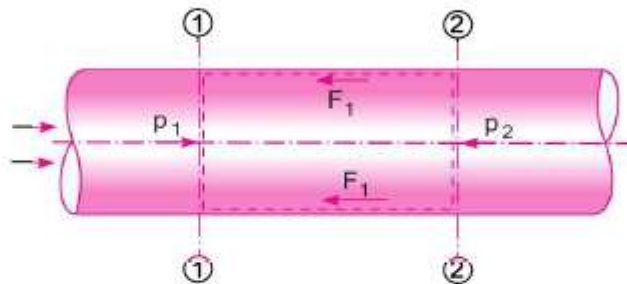

Fig. 10.3 Uniform horizontal pipe.
10.3.1 Expression for Loss of Head Due to Friction in Pipes. Consider a uniform horizontal pipe, having steady flow as shown in Fig. 10.3. Let 1-1 and 2-2 are two sections of pipe.
3. frictional force F_1 as shown in Fig. 10.3.
10.3.2 Expression for Co-efficient of Friction in Terms of Shear Stress. The equation (10.1) gives the forces acting on a fluid between sections 1-1 and 2-2 of Fig. 10.3 in horizontal direction as